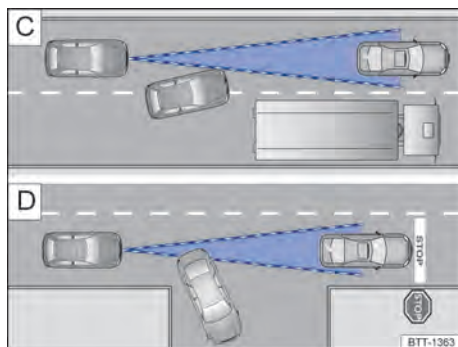

Fig. 100 [C] Changing lanes. [D] Vehicle turning or stopped.
For example, if a vehicle detected by the ACC turns or changes lanes, and if there is a parked vehicle in front, the ACC will not react to the parked vehicle → [Fig. 100 \[D\]](#).
- Vehicles changing to the same lane of the vehicle, at a close distance → [Fig. 100 \[C\]](#).